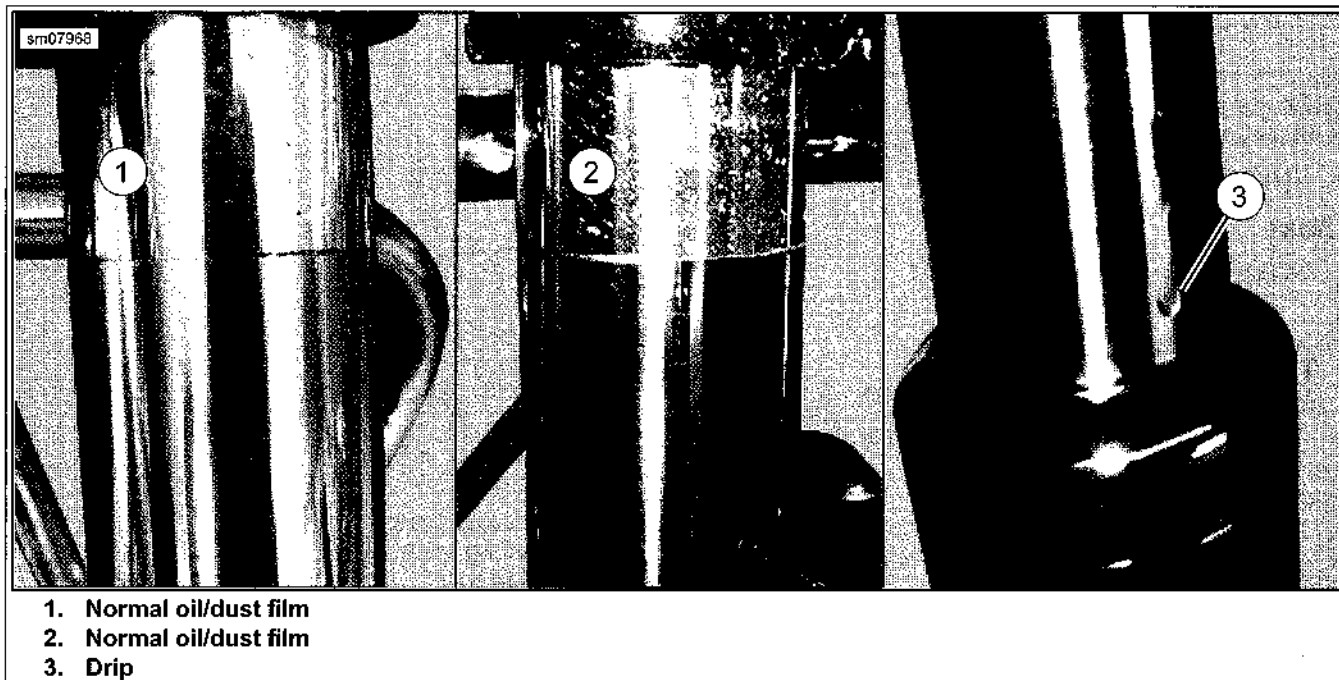

Figure 2-87. Front Forks
4. See Figure 2-87. Check fork slider tube for oil.
- b. If an oil run or drip (3) is present, perform procedure two or three more times to confirm oil leak.